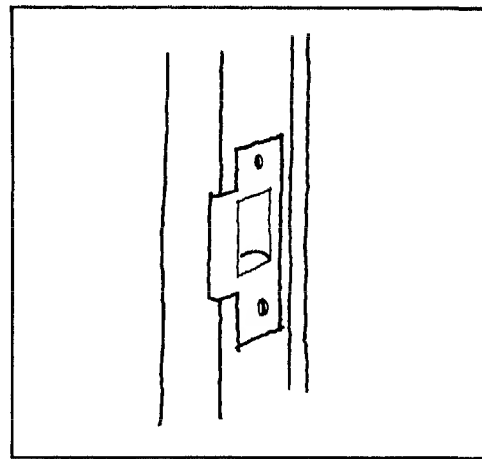
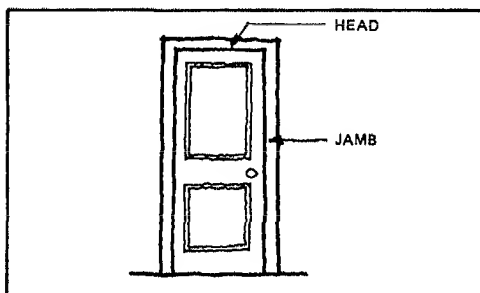

Fig. 5 Door strike.
Fig. 4 Door frame.
The sides and top of a doorway are provided with a door frame which holds the door in position. The side members of the door frame are called jambs; the top member is called the head (see Fig. 4). The strike is the portion of the jamb which is cut out or drilled out to allow installation of a metal plate, which accepts the latch or bolt from the door lock (see Fig. 5).
**Strike:** The strike is the portion of the jamb where a metal plate has been placed to receive the deadbolt and/or the latch (see Fig. 5).